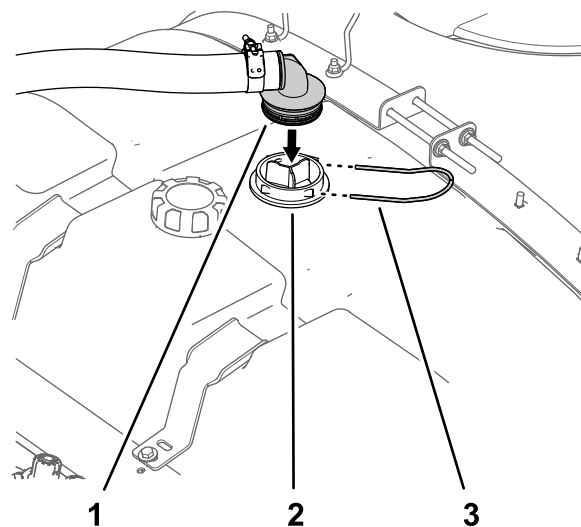

Figure 18
1. Align the 90° barbed fitting of the supply hose with the housing for the suction screen (Figure 18).
2. Secure the 90° barbed fitting to the housing (Figure 18) with the retainer fork that you removed in step 1 of Removing the Rinse Tank (page 5).